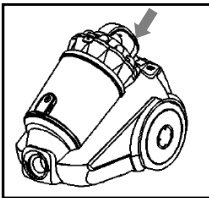

Fig. 4
- Unplug the vacuum cleaner from the mains, then hold the tank by the handle, press the tank removal button (L) and pull it upwards (Fig. 4).